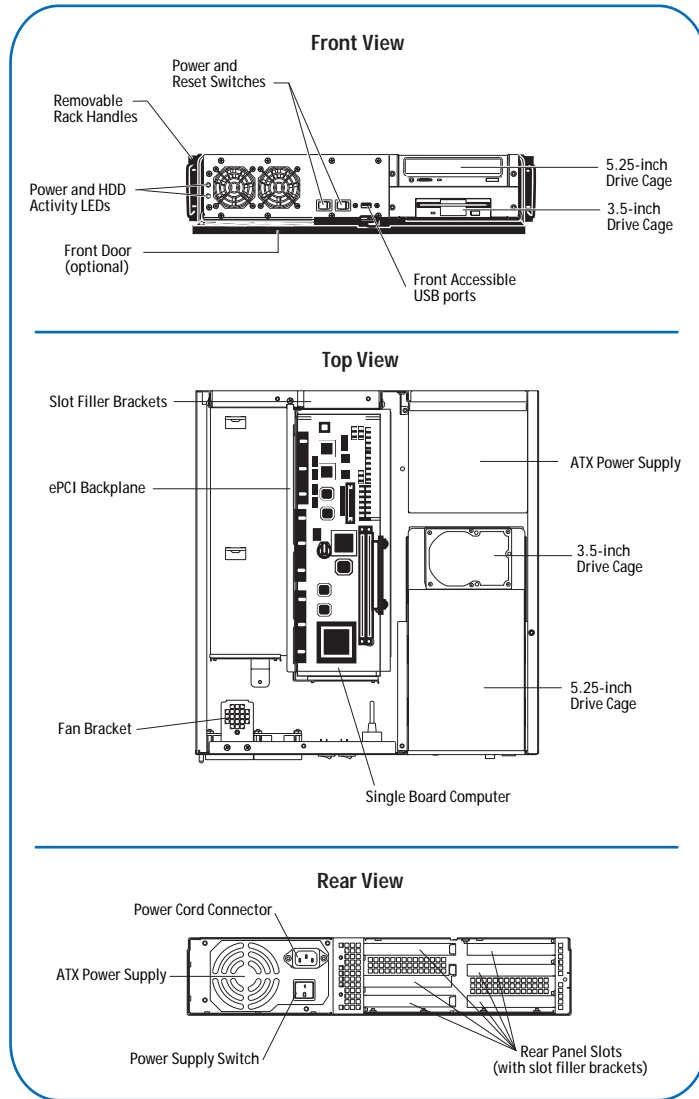

Figure 1. Rack Handle Installation
- 1) Secure each rack handle to the rack ears with two flat head screws (Figure 1).
- 2) Secure the rack ears to the door mounting plates on both sides of the chassis with two round head screws (Figure 1).
- 1) Remove the roller brackets from the included rack slides by extending them from the middle slide until you hear a 'click'. Using your thumb, press down on the tab facing the middle slide and remove the roller bracket. Mount the roller brackets to each side of the chassis (Figures 1 and 2).